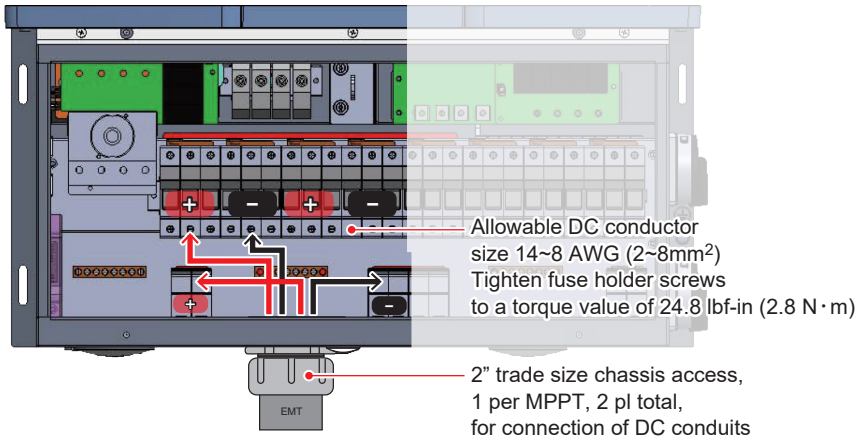

Figure 3-24: Location and string wiring to DC fuse holders for M80/60U₁₂₀ (shown for MPPT 1)
- Two 2" chassis access holes (KOs), one per MPPT can be utilized to connect conduits from PV array DC wiring into the inverter, as shown in **Figure 3-24**.